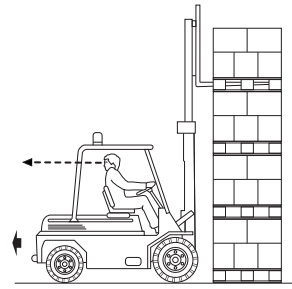

Figure 5
- When the load is securely stacked, lower the fork arms until free of the pallet or dunnage strips. After ensuring the way is clear, withdraw by reversing the lift truck, keeping a continuous lookout front and rear. Great care must be taken to ensure that the forks do not bind on withdrawal. If necessary adjust the tilt to clear (Figure 5);